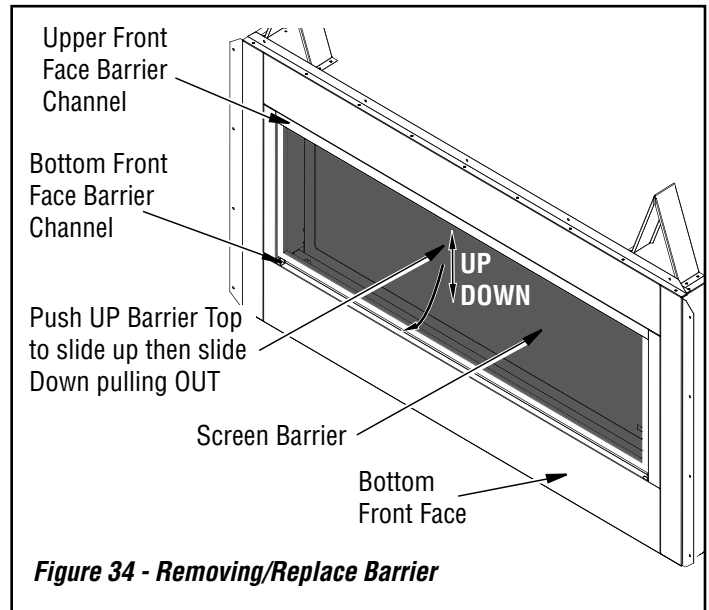

Figure 34 - Removing/Replace Barrier
1. To remove barrier, push barrier top up to slide it up then slide down pulling barrier out (see **Figure 34**).
2. Install the barrier by sliding in into the top channel with the flat side toward the fireplace, then swinging the base of the barrier into the bottom channel and lowering it into place (see **Figure 34**).